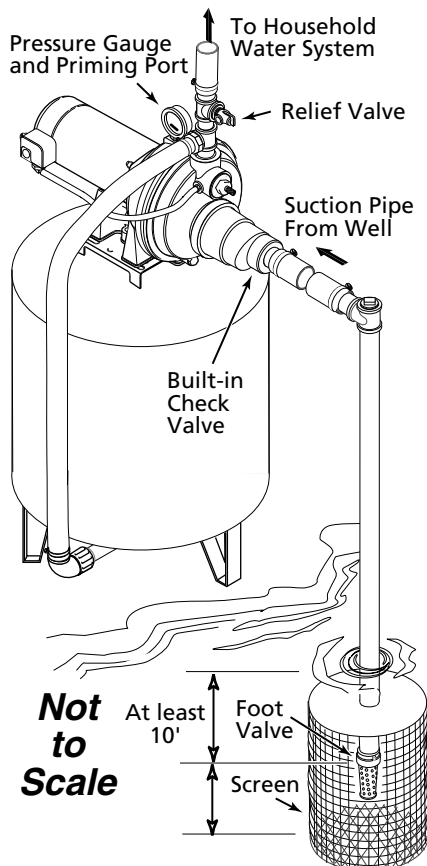

Figure 7 – Surface Water Installation
3. Assemble a foot valve and suction pipe (See Figure 7). Make sure that the foot valve works freely. Use teflon tape or a teflon-based pipe joint compound on threaded pipe joints. Protect the foot valve assembly from fish, trash, etc, by installing a screen around it (See Figure 7).
5. Install a priming tee, priming plug, and suction pipe to the pump (See Figure 7). Support the pipe so that there are no dips or sags in the pipe, so it doesn't strain the pump body, and so that it slopes slightly upward from the well to the pump (high spots can cause air pockets which can air lock the pump). Seal the suction pipe joints with teflon tape or a teflon-based pipe joint compound. Joints must be air and water-tight. If the suction pipe can suck air, the pump cannot pull water from the well.